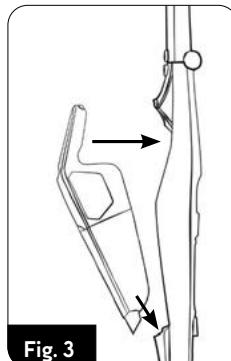

Fig. 3
5. Mount the vacuum cleaner (5) in the handle assembly (2) as shown in the picture (fig.3).